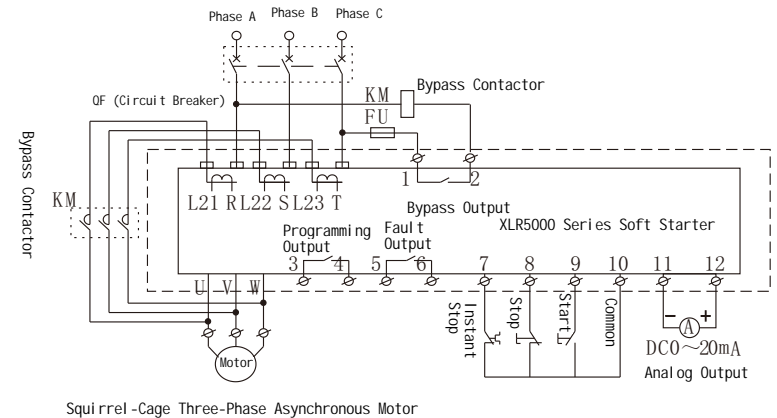

Figure 6
4. Simplified Wiring Diagram of Soft Starter (See Figure 6):